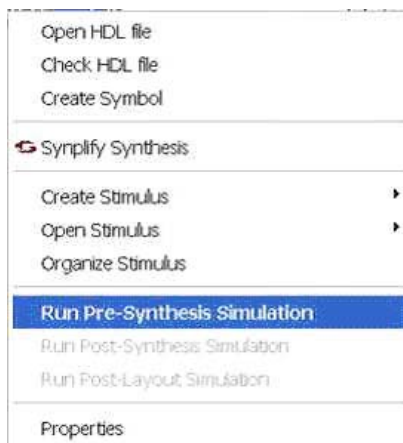

Figure 7-22 • Run Pre-Synthesis Simulation
4. Click the **Simulation** icon in the Design Flow window, or right-click **Top** in the **Design Hierarchy** tab and select **Run Pre-Synthesis Simulation**, as shown in Figure 7-22.